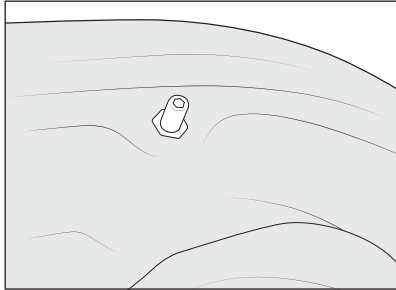

Figure 19
- B. Install the provided black M6x20mm threaded studs into the threaded inserts in the back of the plastic bumper hoop cover (fig 19). Use an allen driver to tighten them until fully seated snug into the inserts, then install the plastic hoop cover to the main weldment, being careful not to pinch any wiring or hoses. Install the provided black M6 flange nuts and washers. Make sure the cover is centered on the hoop, and tighten the nuts to 100 in-lb.